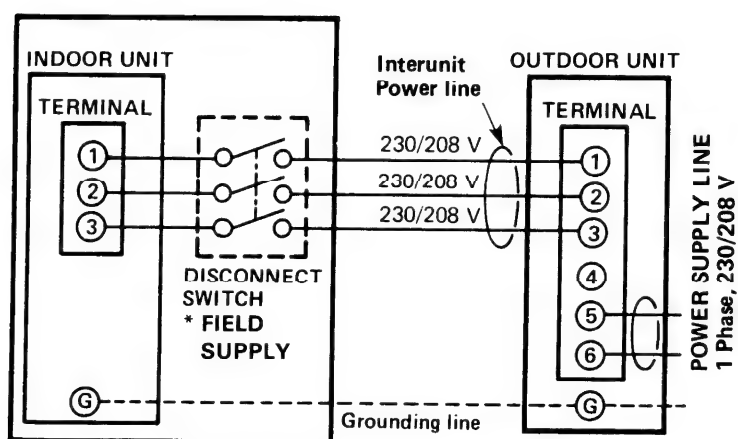

Fig. 21
- Connect interunit power line and power supply line per drawing on inside of the panel "C". Fig. 21